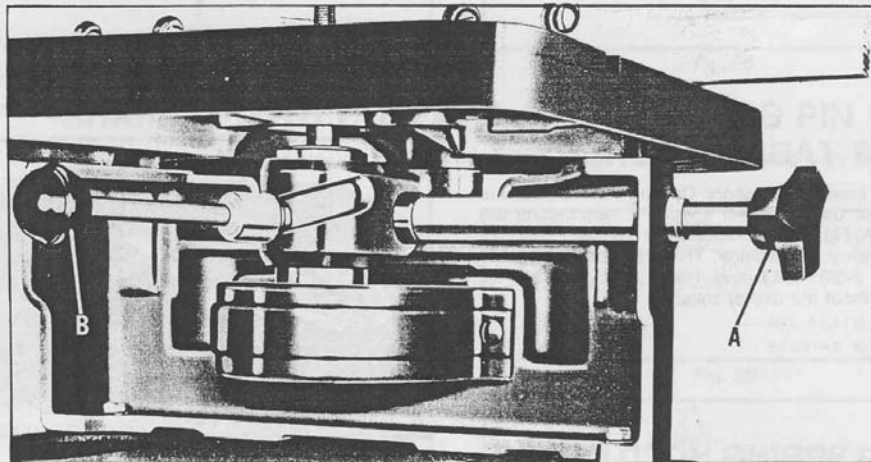

Fig. 19
The spindle can be moved up or down $7/8$ of an inch. To raise or lower the spindle, loosen lock handle (A) Fig. 19, and move lever (B). Always tighten lock handle (A) after raising or lowering the spindle.